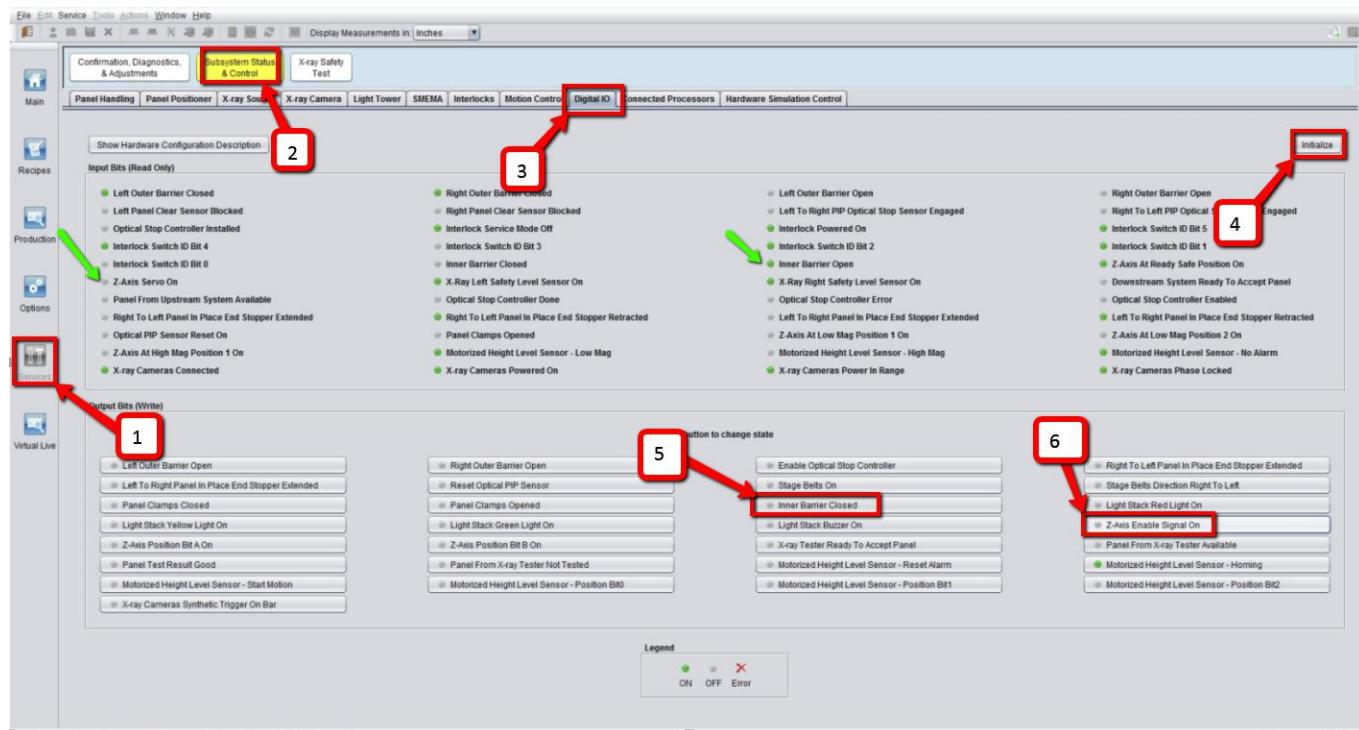

Figure 5 Digital IO
2. At DIO tab, ensure Inner barrier input bit is “Open” status & Z-Axis Servo On is “Disable” status. If not, manually toggle output bit as shown in Figure 5.